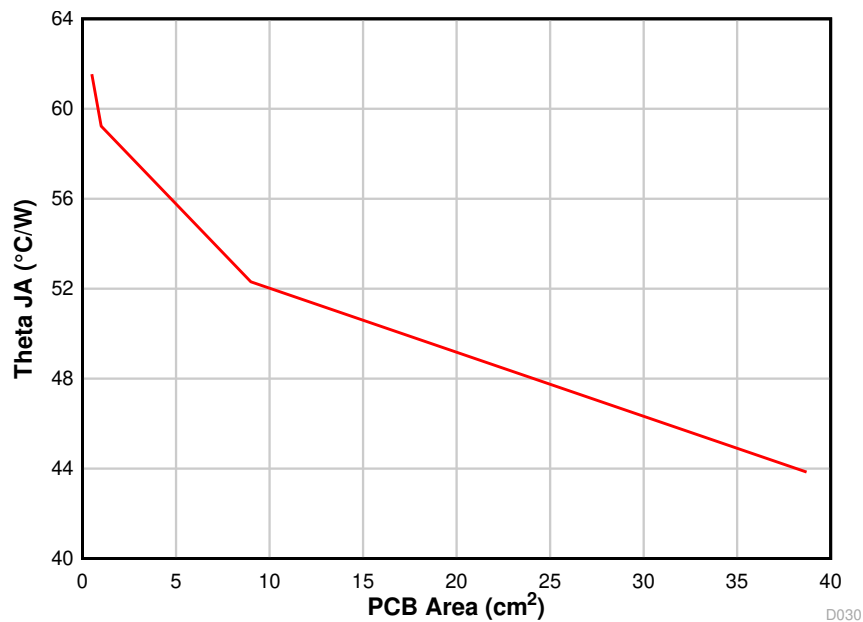

Figure 10-3. θ_{JA} versus PCB Area
The amount of PCB copper affects the thermal performance of the device. Figure 10-3 shows the effects of copper area on the junction-to-ambient thermal resistance ($R_{\theta JA}$) of the TPSM265R1. The junction-to-ambient thermal resistance is plotted for a 4-layer PCB with an area from 0.5 cm² to 39 cm².
3. Reference Figure 10-3 to determine the minimum required PCB area for the application conditions.